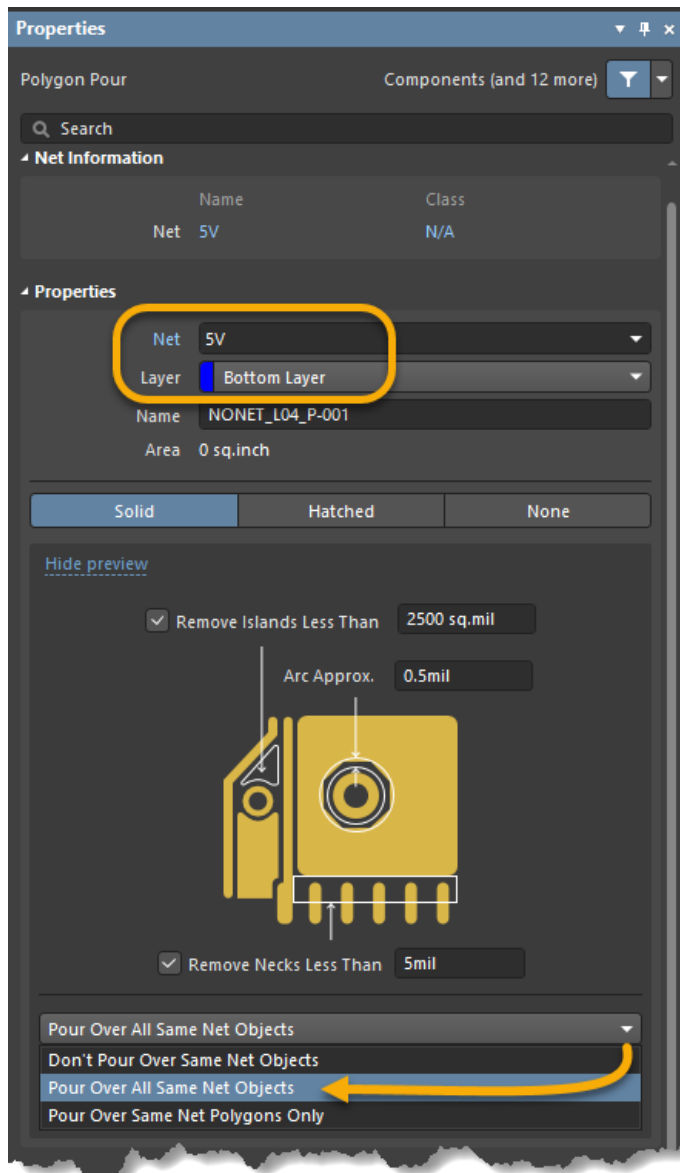

Figure 4. Polygon Pour dialog
18. Press the **Tab** key to pause the command and open the *Properties* panel to access the *Polygon Pour* dialog as shown in Figure 4.
20. Near the bottom of the panel, below the preview of the polygon, select **Pour Over All Same Net Objects** from the drop-down menu as shown in Figure 4.